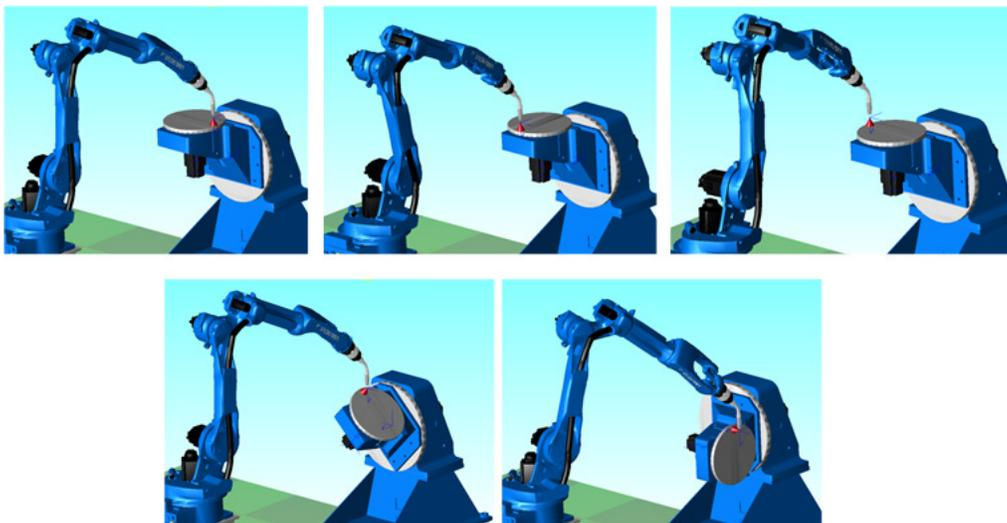

Figure 1: Example Robot/Positioner Calibration Positions
- (3) Calibrate robot to positioner using the five point procedure documented in "DX200 OPTIONS INSTRUCTIONS FOR INDEPENDENT/COORDINATED CONTROL FUNCTION" Section 2.4 System Setup. See Figure 1 for example calibration positioning.